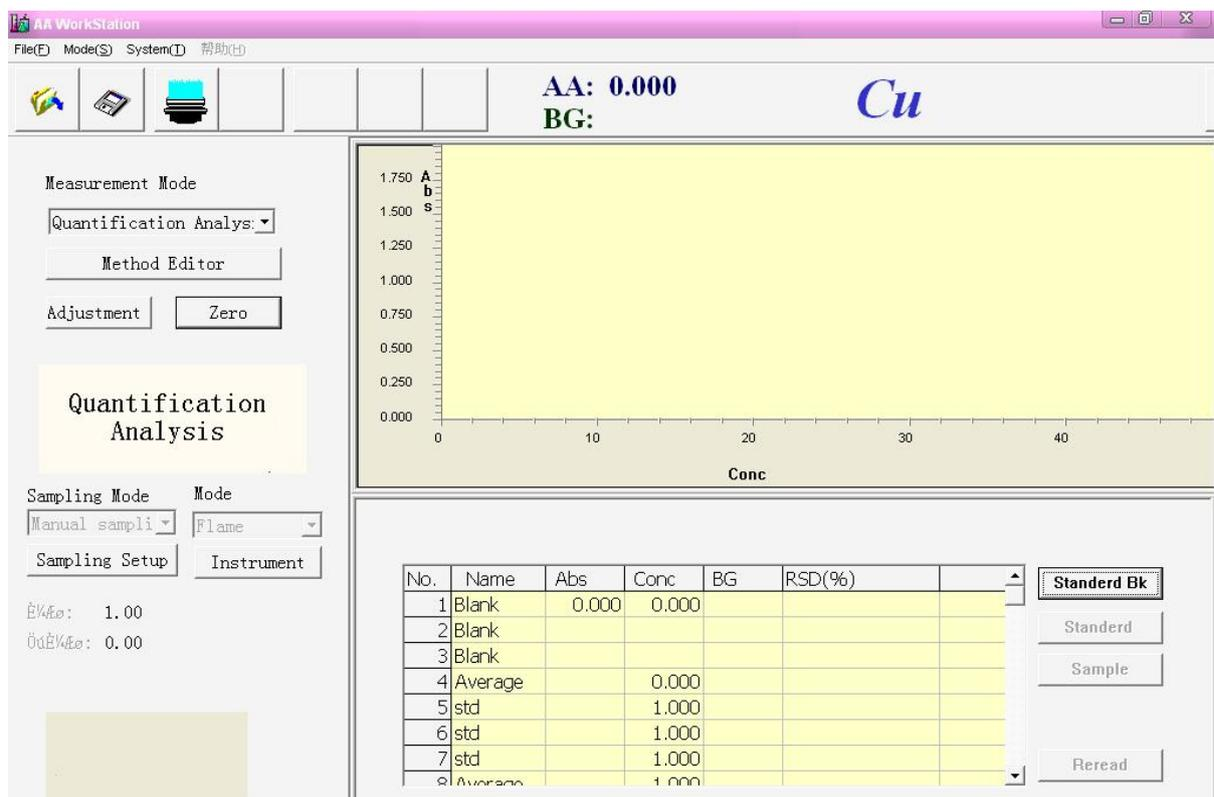

Figure 5-11
8.Absorbing de-ionized water,Press"Zero" button,after this, spurt and absorb standard sample blank, press **【Standard Bk】** button, shown in Figure 5-11.